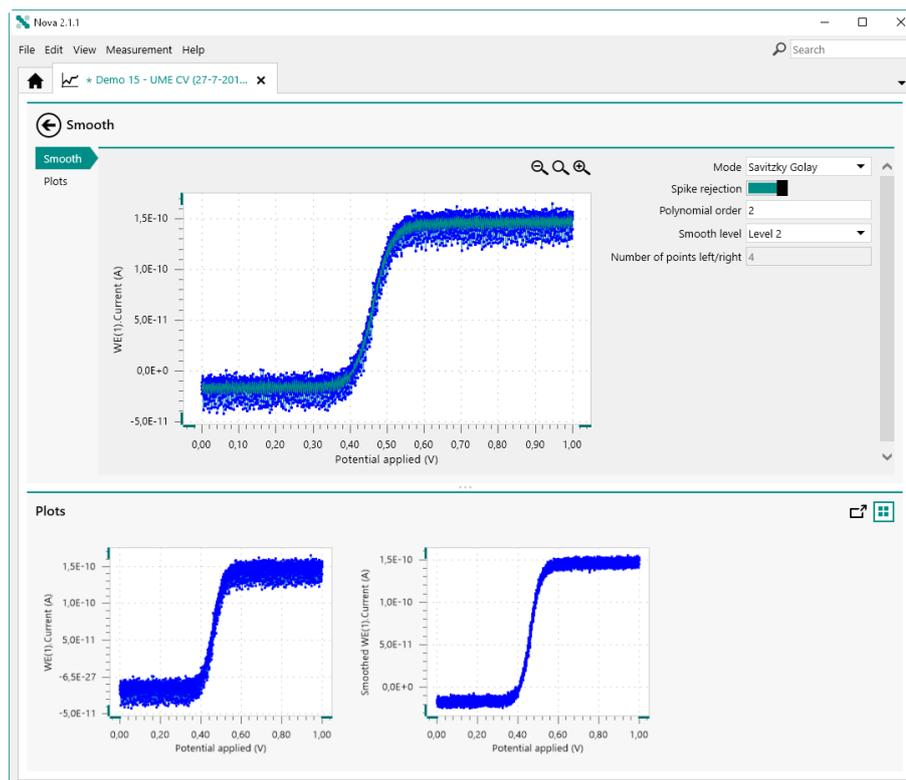

Figure 892 The Smooth command with the default properties of the Savitzky-Golay mode
In *Savitzky-Golay* mode (SG), the **Smooth** command applies a smoothing algorithm based on the Savitzky-Golay algorithm. The properties can be adjusted in the panel on the right hand side (see Figure 892, page 731).